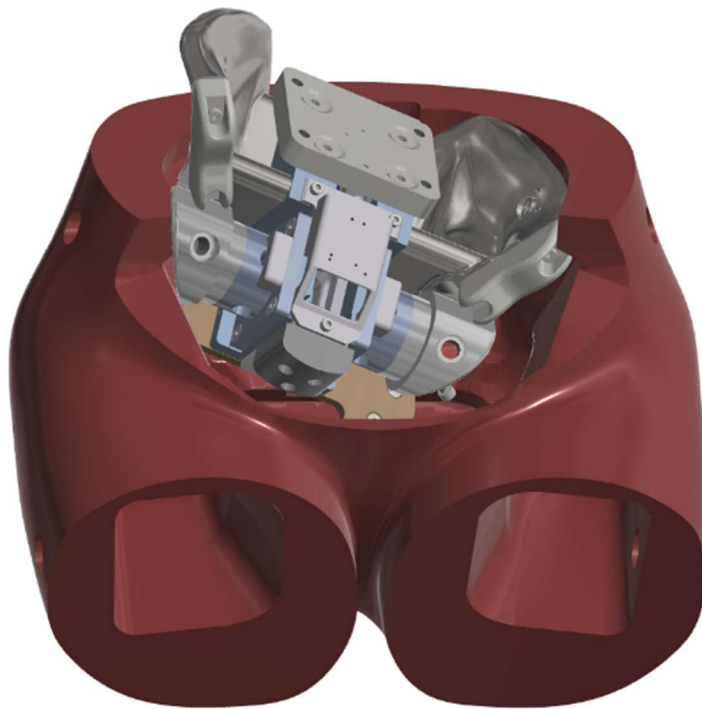
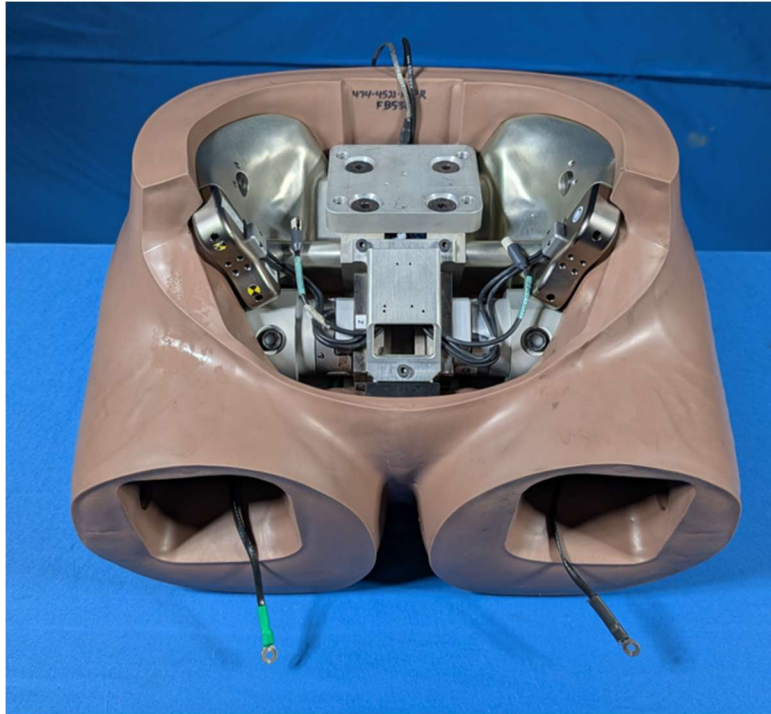

Figure 8-53. Insert pelvis assembly into pelvis flesh
Figure 8-54. Route the ground cables through the leg holes
8.3.23 Install the completed mechanical pelvis assembly into the Pelvis Flesh (474-4520) (Figure 8-53). Route the ground cables through the leg holes (Figure 8-54).